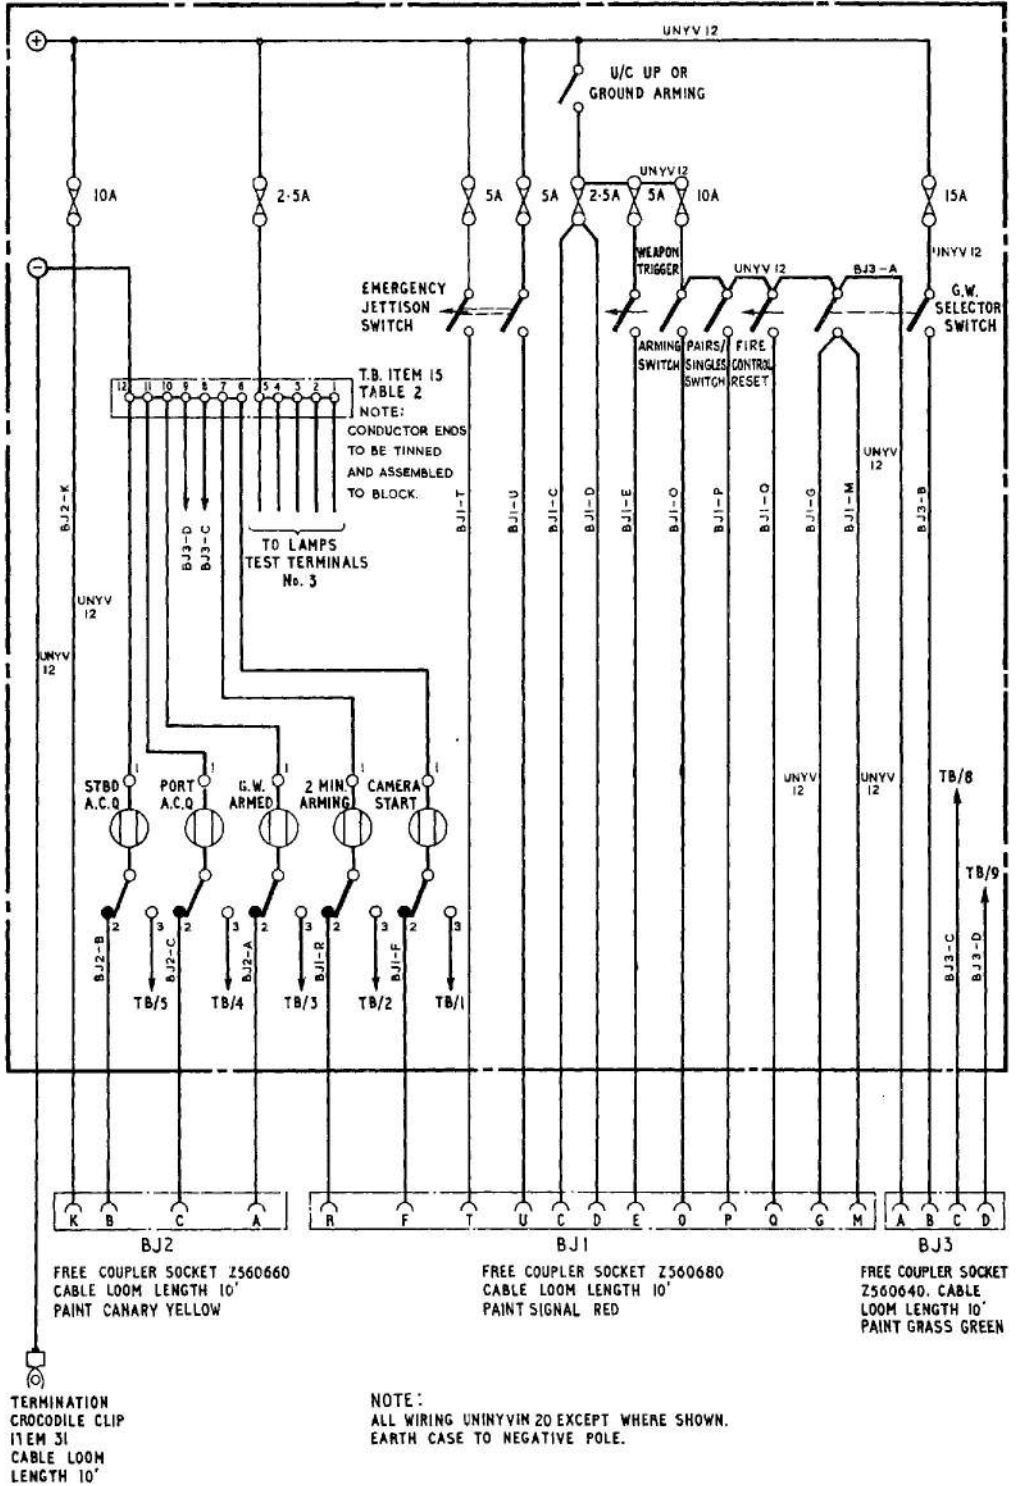

Fig. 5. Circuit Diagram
8. Refer to Fig. 5 for a circuit diagram of the test set, showing the leads which comprise the connectors, and Table 4 for components. Make up connectors as follows:—
- (1) Cut 15 pieces of Vin 20 cable and 5 pieces of Vin 12 cable, each 12 ft. 8 in. long and prepare one end of each cable.
- (2) Fit insulating sleeves to cables.
- (3) Bunch cables as shown in Fig. 5
9. Refer to Fig. 5 when connecting the cables of the test set and to Table 5 for details of cable connections. When routing and connecting cables within the test set allow sufficient spare in the cables to facilitate possible future servicing. Arrange the cables neatly in looms running down the rear panel, across the bottom of the test set and up the front panel.
- (1) Lay the front panel, face down, with its lower edge near the lower edge of the front of the case.
- (2) Position the rear panel in a similar manner at the rear of the case.
- (3) Cut to length each cable, route and connect as shown in Fig. 5, fitting sleeves to the cable ends.
- (4) Mark sleeves as shown in Fig. 5.
- (5) Loom cables using Item 9, (Table 5).
- (1) Connect a 28V d.c. supply to the terminals on the rear panel.
- (2) Depress each indicator lamp in turn and check that the lamps light. (The maximum current drawn from the test set when testing a weapon pack is less than 6 amps.: however, self-testing draws less than 1 amp.)
- (3) Make up a test lamp (24V, 2.4W) with leads, approximately 1 ft. long.
- (4) Connect one lead to the test set negative terminal.
- (5) Referring to Fig. 5, connect the other test lead in turn to the free coupler sockets and check that the test lamp lights when the appropriate switch is closed.